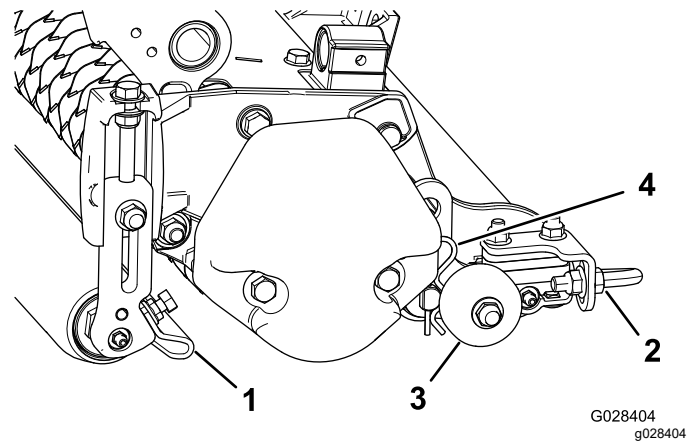

Figure 11
1. Loosen the flange nuts that secure the roller scrapers (Figure 11).
Important: Before the verticutters are lowered to the shop floor or removed from the traction unit, lower the transport rollers (Figure 11) to protect the blades from hard surface contact.